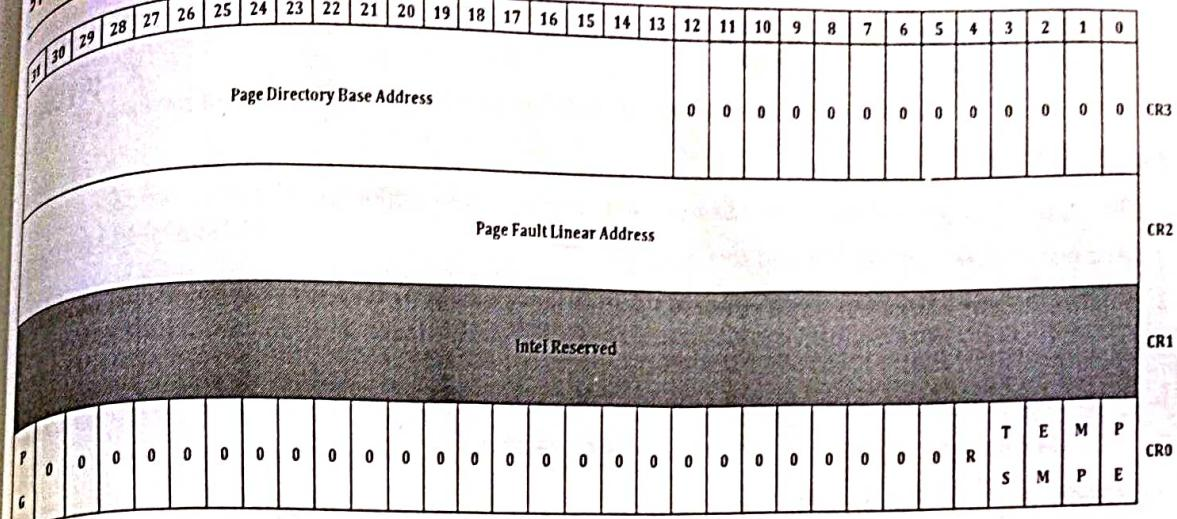

Figure 5.12: Control Registers of 80386DX.
- Figure 5.12 shows the control registers of 80386DX.